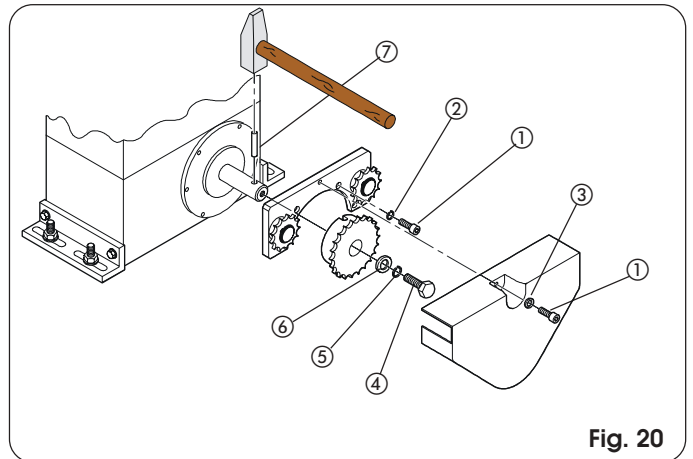
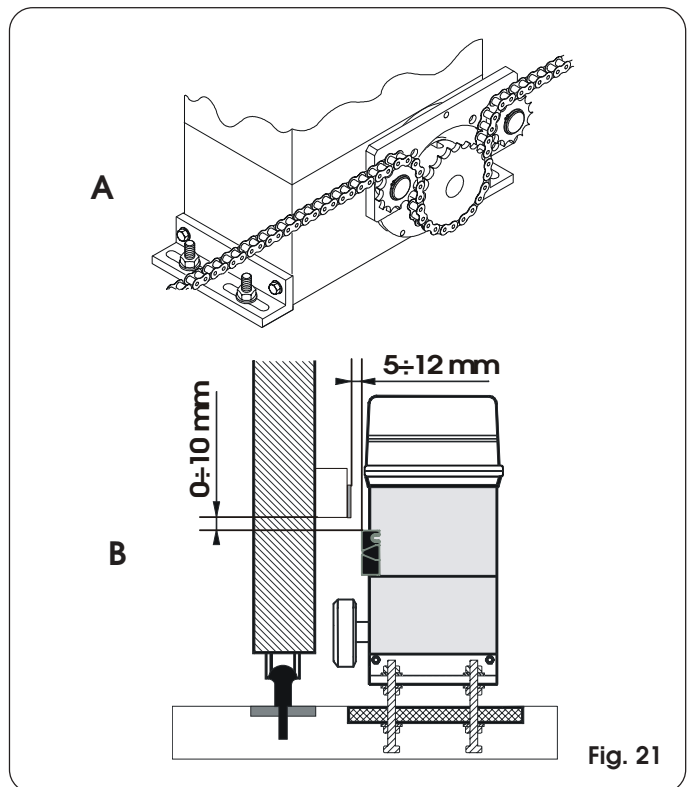

Fig. 20
Fig. 21
**4.5.2. MOD. 746 ER RF (Figs. 20 - 21)**
- 1) Insert the spring pin ⑦ on the shaft, using a hammer.
- 2) Fit the idle transmissions bracket on the gearmotor flange, using the four screws ① (M5 x 12) and the appropriate washers ②, in the kit as shown in Fig. 20.
- 3) Fit the chain pinion on the shaft, making the pinion seats coincide with the spring pin and tighten the screw ④ and the appropriate washers ⑤ and ⑥.
- 4) Pass the chain as shown in Fig. 21 ref. A and install the housing with screw ① and washer ③ as in Fig. 20.
- 5) In case of operators with MLS limit switches, arrange the supports for the positioning of the magnets supplied while observing the dimensions given in fig. 21 ref. B.